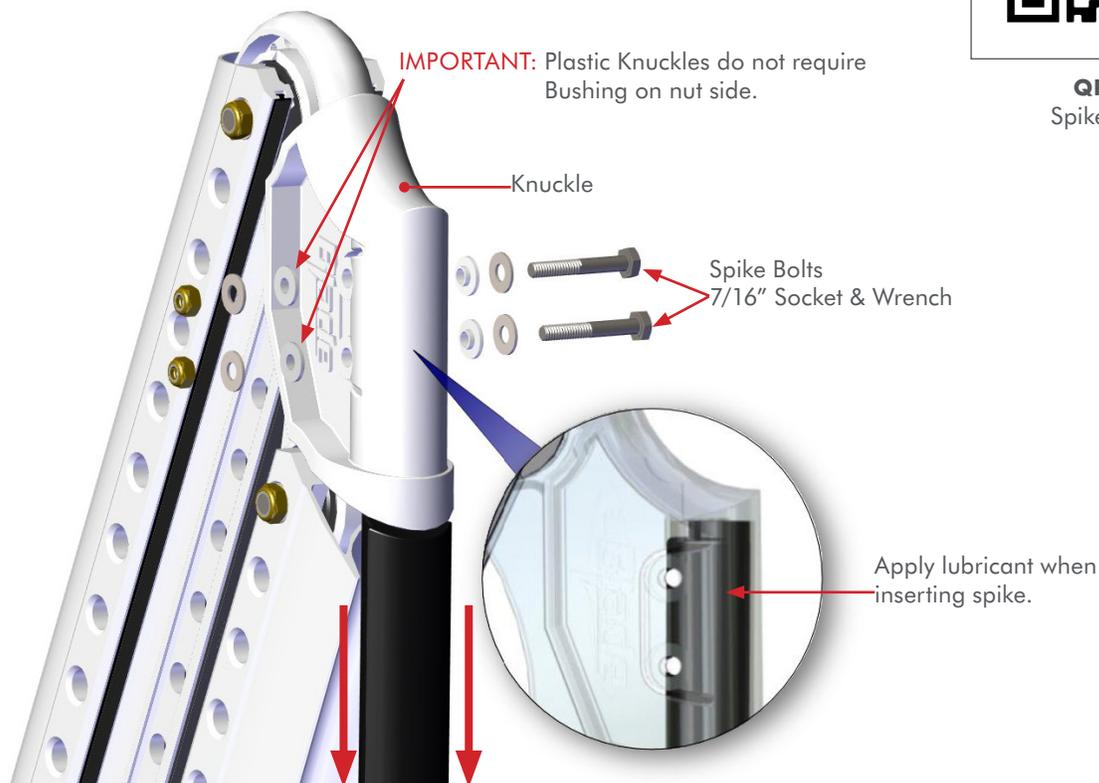

Figure 1
- STEP 1** Remove both **Spike Bolts** and all mounting hardware using a **7/16" Socket & Wrench**. **FIG 1**
**STEP 2** Reinstall the mounting hardware and tighten the **Spike Bolts** snug. **FIG 1**